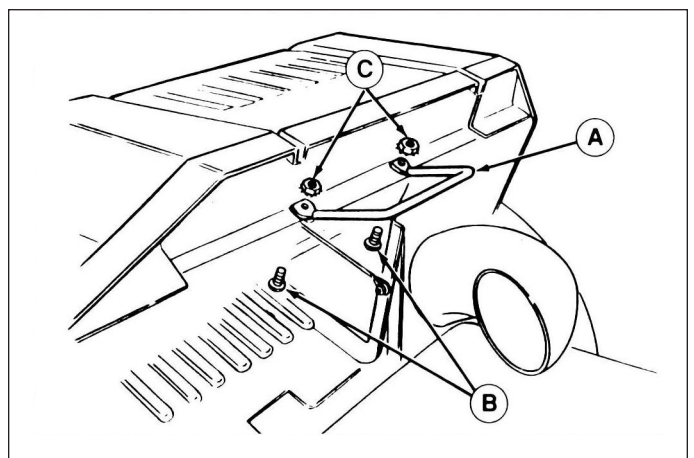

Figure 16.
4. Install handle (A, figure 16) to rear surface of lid with offset toward the rear. Secure with two 10-32 x 1/2 truss screws (B) and 10-32 hex nuts (C).